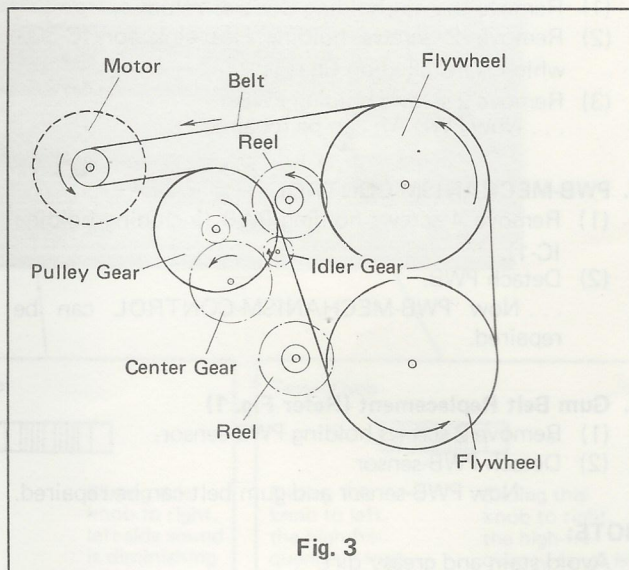

Fig. 3
2. Tape Transmitting Mechanism (Ref. Fig. 3)